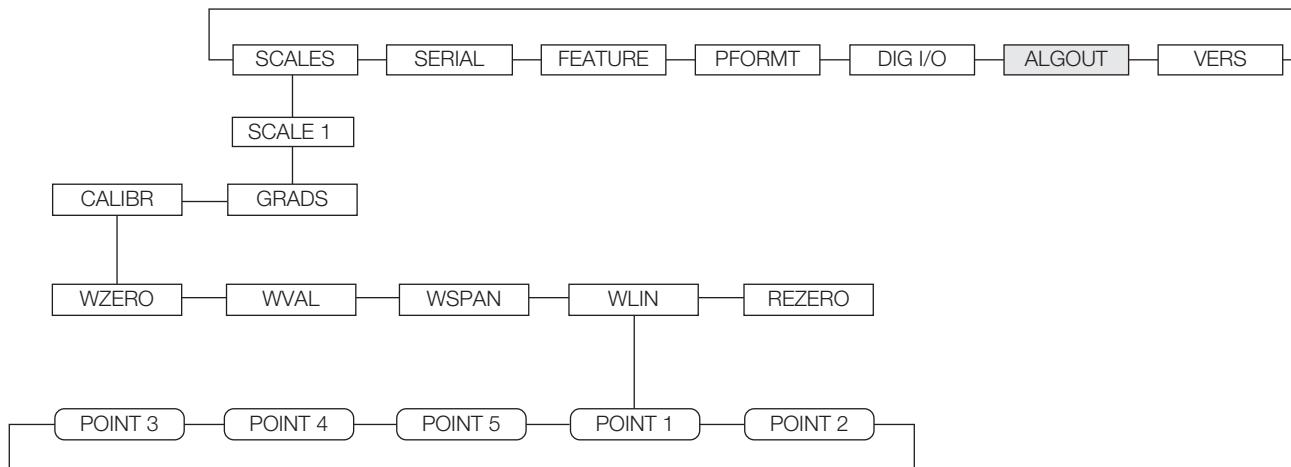
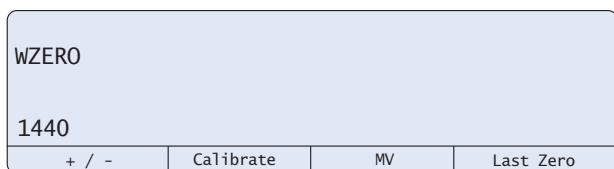

Figure 4-1. Calibration (CALIBR) Submenu
Figure 4-2. WZERO Calibration Display
The CALIBR submenu (under the SCALES menu, see Figure 4-2) is used to calibrate the 720*i*.
2. With the SCALES menu highlighted, press the **Down** key, then select the scale to be calibrated. Press **Down** again (GRADS parameter highlighted), then press **Left** to highlight the CALIBR submenu (see Figure 4-1). Press **Down** to go to zero calibration (WZERO). See Figure 4-2 on page 47.